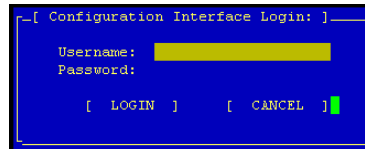

Figure 202. Enter User Name and Password
1. From the Configuration Interface entry window, press Enter to start the log in process. The Configuration Interface Login window opens, shown in Figure 202.